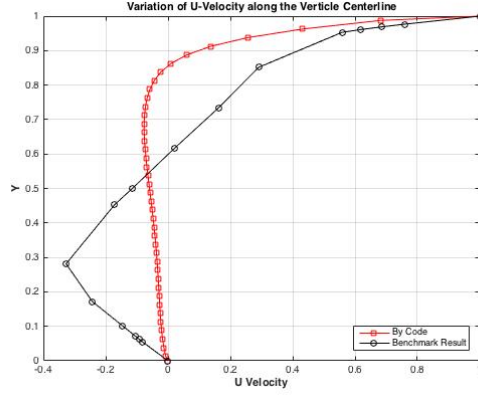

Figure 4: U velocity along the vertical centerline at Re=400
1. In U velocity contour for both Re values (figure 4,6) we see that that U is 1 at the topmost boundary and then decreases as we go below, finally it goes to some finite negative value at some point in the contour and then sinks to zero at the bottom. This shows that a rotational field flow is also generated in the fluid system